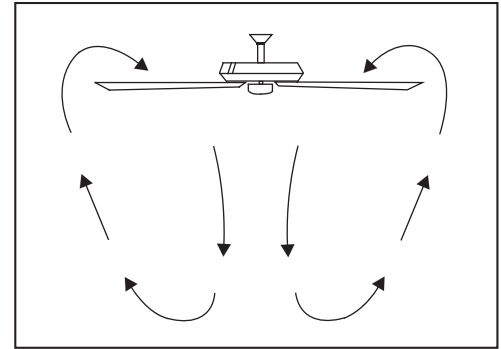

Figure 23
**Warm weather** - (Counter Clockwise Direction) A downward air flow creates a cooling effect as shown in Figure 23. This allows you to set your air conditioner on a higher setting without affecting your comfort.